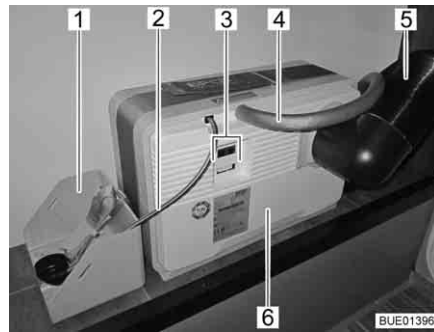
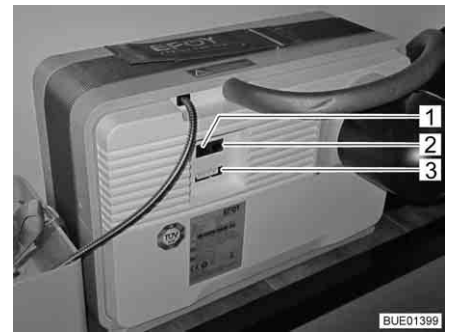

Fig. 134 Fuel cell with tank cartridge
Fig. 135 Connector panel of the fuel cell
The fuel cell consists of several components that are installed in the rear storage space (Fig. 134) and of an operating unit (Fig. 136) in the living area. The following components are on the fuel cell (Fig. 134,6):
- The connector for the air discharge hose (Fig. 134,4) or the filling hole for the service fluid
- the off-heat tube (Fig. 134,5)
- electrical connections (Fig. 134,3) with data interface (Fig. 135,2), device connection (Fig. 135,3) and connection for the operating panel (Fig. 135,1)
A tank cartridge belongs to the fuel cell (Fig. 134,6). It is connected to the fuel cell via a tank connection (Fig. 134,2).
The tank cartridge is firmly fixed in the tank cartridge holder (Fig. 134,1).